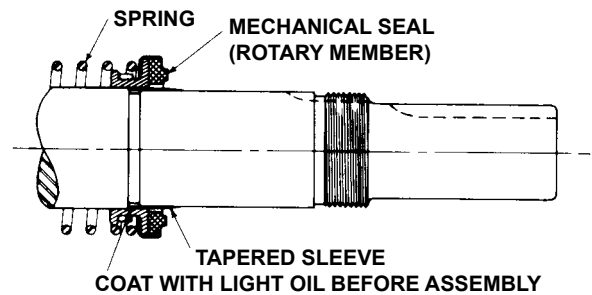

FIGURE 11
4. Place a tapered installation sleeve on the shaft, refer to **Figure 11**. The sleeve is furnished with GG, AS, AK and AL replacement mechanical seals. Coat the rotor shaft, tapered installation sleeve and inner diameter of the mechanical seal rotary member with a generous amount of non-detergent SAE 30 weight oil. Petrolatum may be used but grease is not recommended.